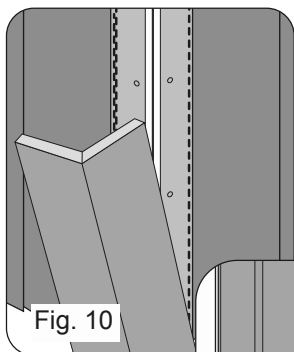

Fig. 10
- In situations where it is not possible to place the nail in the center of the nailing slot (foam sheathing, etc.) it is permissible to remove the material in between two slots to allow for more room for expansion and contraction (Fig.10).
- Select fixture mounts are available for obstructions such as lighting, dryer vents, water faucets, etc. Begin by installing the base "ring." Install the siding panels allowing for the appropriate expansion gap depending upon the length of the siding course. Center and secure the face plate with two Select Cortex trim screws and plugs (Fig. 10).